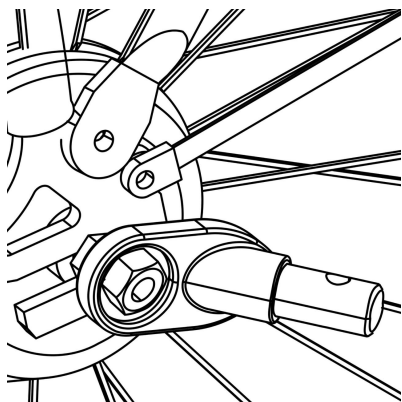

Figure 2
2. Nutted Axle: Unscrew the nut with washer from the left side of bike's rear axle. Install the hitch onto the axle and screw the nut back on with the washer(Figure 2).